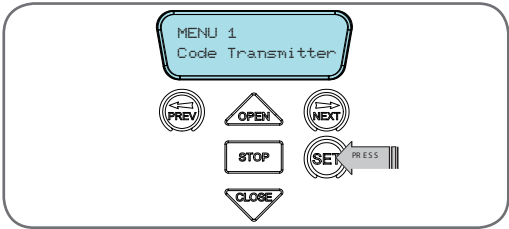

Fig F.1
- a. Press NEXT to navigate to Menu 1 (**Fig. F.1**) .